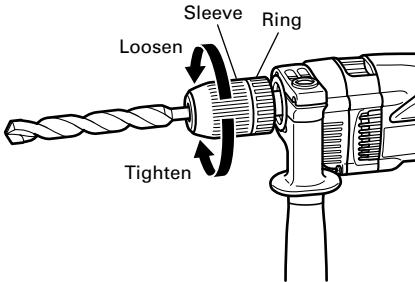

Fig. 3
**For keyless chuck (Fig. 3)**
- (1) Open the chuck jaws, and insert the bit into the chuck.